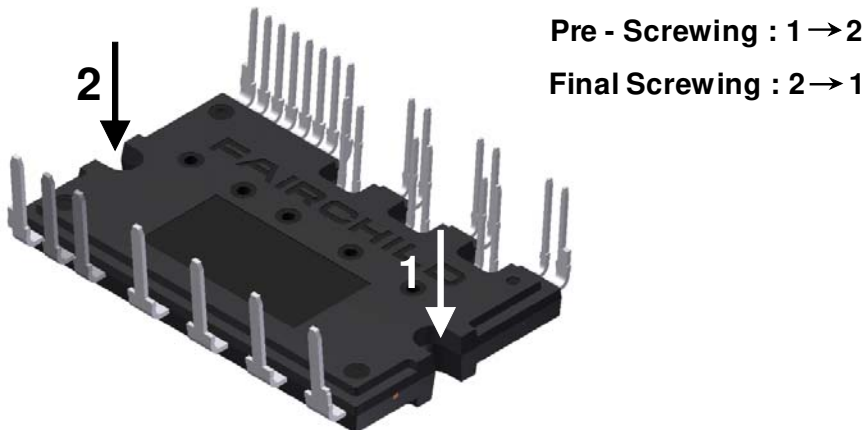

Figure 10. Mounting Screws Torque Order
- 12. Avoid one side tightening stress. Figure 10 shows the recommended torque order for mounting screws. Uneven mounting can cause the ceramic substrate of the Motion SPM 3 product to be damaged. The Pre - Screwing torque is set to 20 ~ 30% of maximum torque rating.